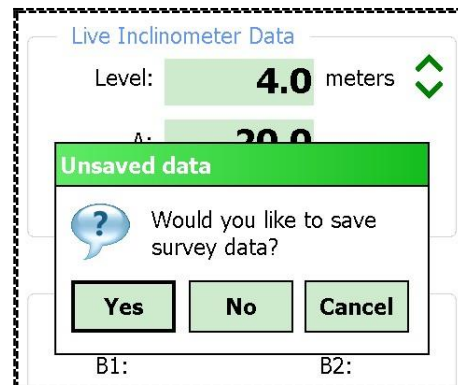
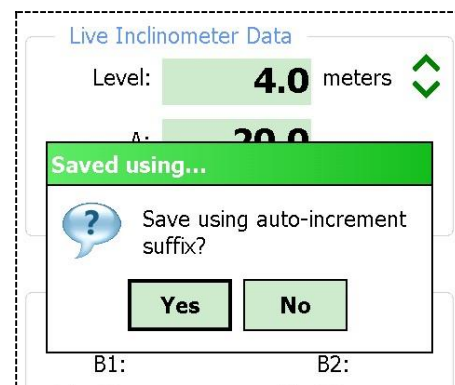

Figure 33 - Unsaved Data Prompt
Figure 34 - Auto Increment Save
- At any point you can scroll the 'Level' using the green up and down arrow buttons on the screen and view data stored and checksums (lower half of the screen). When done taking readings, tap "Menu" (lower-left corner of the screen), followed by "Exit Live Readings". You will be given the option to save the readings to a file (see Figure 33).
- If **Yes** is selected, you then will be given the choice of saving with the auto-increment suffix on the standard filename (see Figure 34). Selecting Yes again causes the save operation to be carried out using a filename of the form: *[Hole_Name][3 digit AutoIncr_Suffix].GKN*
9. When done taking readings, tap the "Menu" item (bottom-left corner of the screen), followed by "Exit Live Readings". You will be given the option to save the readings to a file (see Figure 33).
10. Even if "No" (see Figure 33) is selected, the readings will be saved to a temporary file and can be restored the next time the Live Readings screen is entered.
11. If "Yes" (see Figure 33) is selected, then another dialog box will be displayed giving the choice of saving with the auto-increment suffix on the standard filename (see Figure 34). Selecting "Yes" again causes the save operation to be carried out using a filename of the form: *[Hole_Name][3 digit AutoIncr_Suffix].GKN*